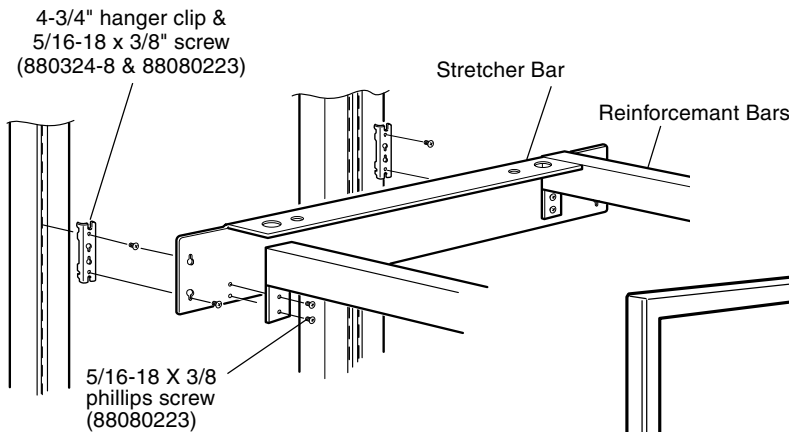

Figure 1
1. Install a 5/16-18 x 3/8" phillips screw into each hanger clip at opposite ends, leaving a 3/16" gap between screw and clip. At designated mounting height, engage hanger clips on left and right-hand sides of frame with screws at the top. Make sure clips are firmly seated. (Figure 1)
3. Align holes in reinforcement bar with the threaded inserts in the stretcher bar, fasten each with two (2) 5/16-18 x 3/8" phillips screws. (Figure 1)